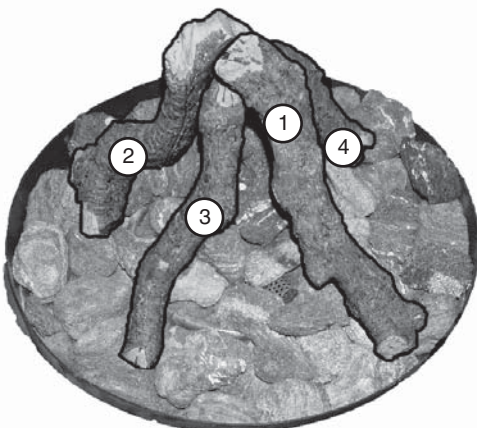

Fig. 17-4
1. Place the ends of three or four logs into the volcanic stones with their flat sides facing inward and their tops pointed upward. Then lean their other ends against each other at an angle in the center of the fire ring (see Fig. 17-4).